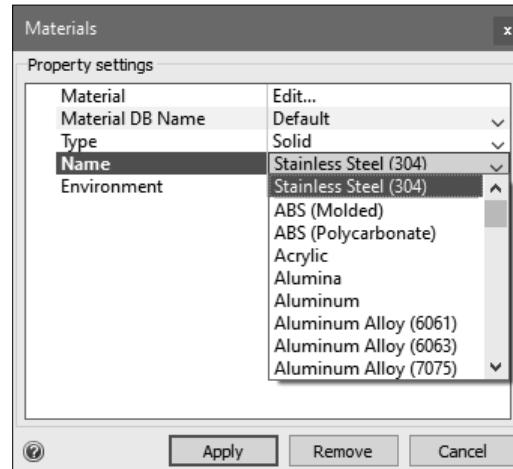

Figure-8. Selecting material for model
- Each material type list contains various materials of same kind. Click in the **Name** drop-down from the **Materials** dialog box and select desired material; refer to Figure-8.